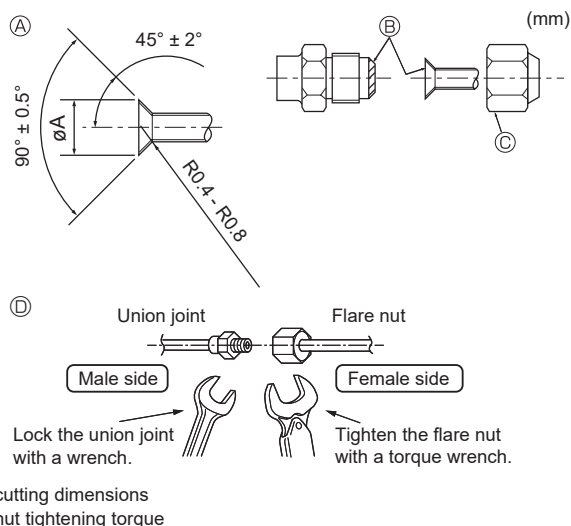

Fig. 4-1
① (Fig. 4-1)
② (Fig. 4-1)
4.2. Connecting pipes (Fig. 4-1)
- Apply thin layer of refrigerant oil to pipe and joint seating surface before tightening flare nut. ①
- Apply refrigerating machine oil over the entire flare seat surface. ②
- Use the flare nuts for the following pipe size. ③
- Use 2 wrenches to tighten piping connections. ④